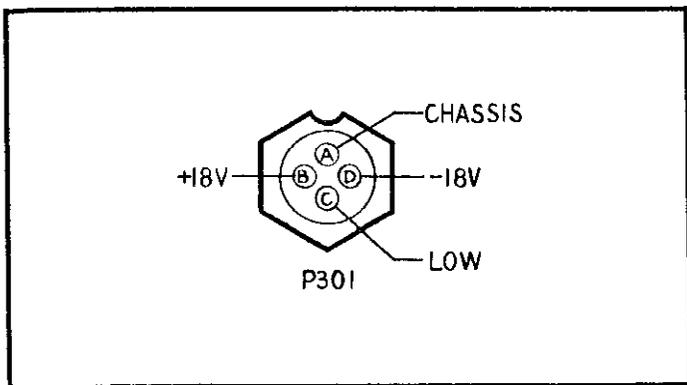

FIGURE 7a. Power Receptacle.
c. Power Input. The Model 103A has a special four terminal receptacle on the rear panel for input power connections. This receptacle (P301) is an Amphenol 126-214 connector which mates with Keithley Model 1083 Power Cable. The four terminals are designated A, B, C, and D as shown in Figure 7a. The Model 1083 Power Cable can be used to connect with the Model 840 Auxiliary Power receptacle or any one of three power receptacles on the Model 1031A. To avoid unnecessary ground loops the Model 103A has been designed so that circuit low to chassis ground connection is made at only one point in the power supply (either Model 840 or Model 1031A). If a different power supply is used (a regulated supply or batteries) the connection between circuit low to chassis ground should be made at the supply using a 10 ohm resistor.